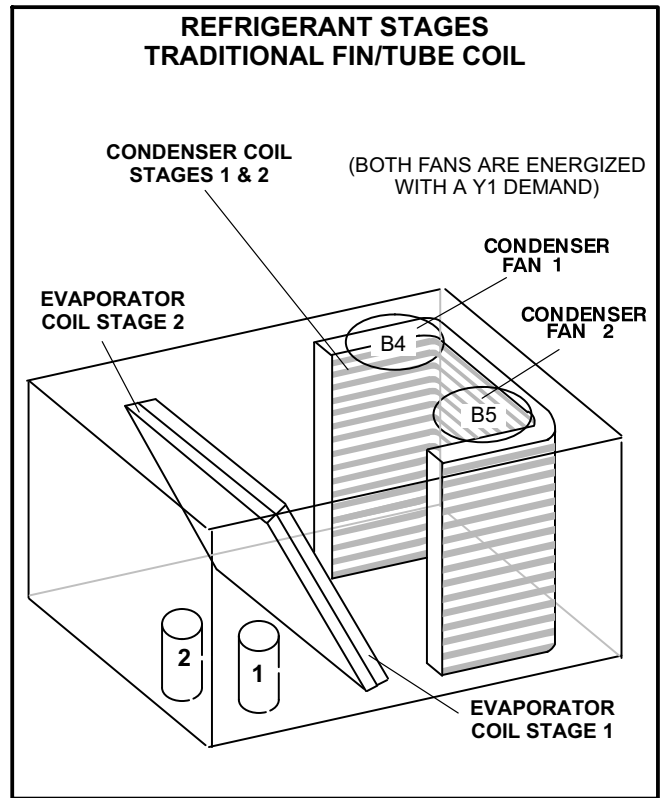

FIGURE 22
- 3- Units have two refrigerant circuits. See figure 22.